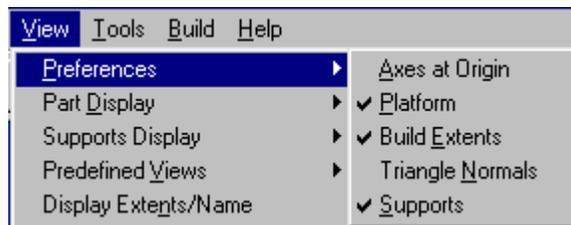

Figure 138. View Pull-down Menu (Preferences)
1. Click on "**V**iew" from the main menu, to open the "View" Pull-down menu (Figure 138).